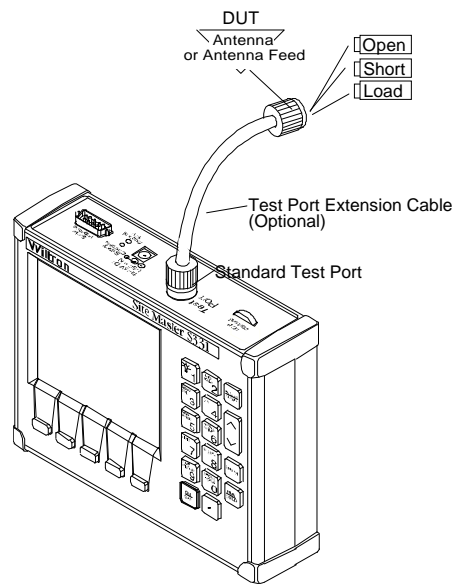

Figure 2-9. Measurement/Calibration Test Setup
“Connect LOAD, Press ENTER” instructions that appear in the message area. Connect the respective Open, Short, and Load component to the end of the Test Port Extension Cable (Figure 2-9) prior to pressing ENTER.
- Step 7.** Perform a measurement calibration, using the **START CAL** key. Select **CAL A** or **CAL B**. Follow the ensuing “Connect OPEN, Press ENTER,” “Connect SHORT, Press ENTER,” and “Connect LOAD, Press ENTER” instructions that appear in the message area. Connect the respective Open, Short, and Load component to the end of the Test Port Extension Cable (Figure 2-9, page 2-24) prior to pressing **ENTER**.